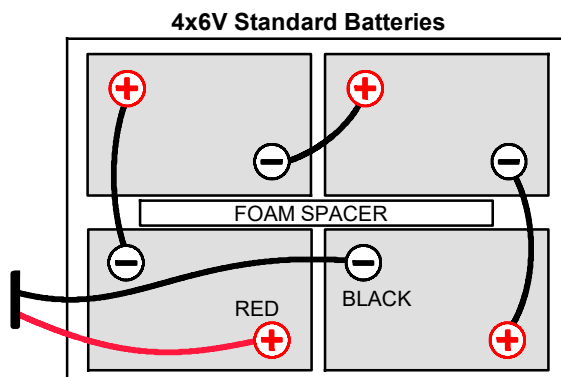

FIG. 2
2. Carefully install the batteries into the battery compartment tray and arrange the battery posts as shown (Figures 2 & 3). Position foam spacer(s) as shown. Using the supplied battery post boots, connect the cables to battery posts, RED TO POSITIVE (+) & BLACK TO NEGATIVE (-).